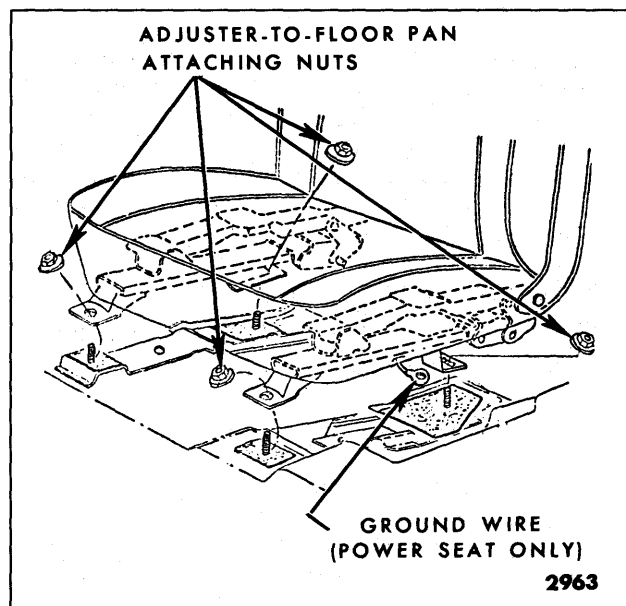

Fig. 15-29—Bucket Seat Floor Pan Attachment - "A, F, X & Z" Styles
2. Turn back floor carpeting sufficiently to expose seat adjuster-to-floor pan attaching nuts or bolts (Figs. 15-29 and 15-30).
3. Operate seat to full rearward position. Remove adjuster-to-floor pan front attaching bolts or nuts (Figs. 15-29 and 15-30). Operate seat to full forward position. Remove adjuster-to-floor
3. Remove seat adjuster-to-floor pan rear attaching bolts (Figs. 15-29 and 15-30).
4. Operate seat to full rearward position. Remove seat adjuster-to-floor pan front attaching bolts (Figs. 15-29 and 15-30). Tilt seat rearward sufficiently to disconnect seat harness feed connector and detach harness from clip on floor pan; then remove seat assembly from body.